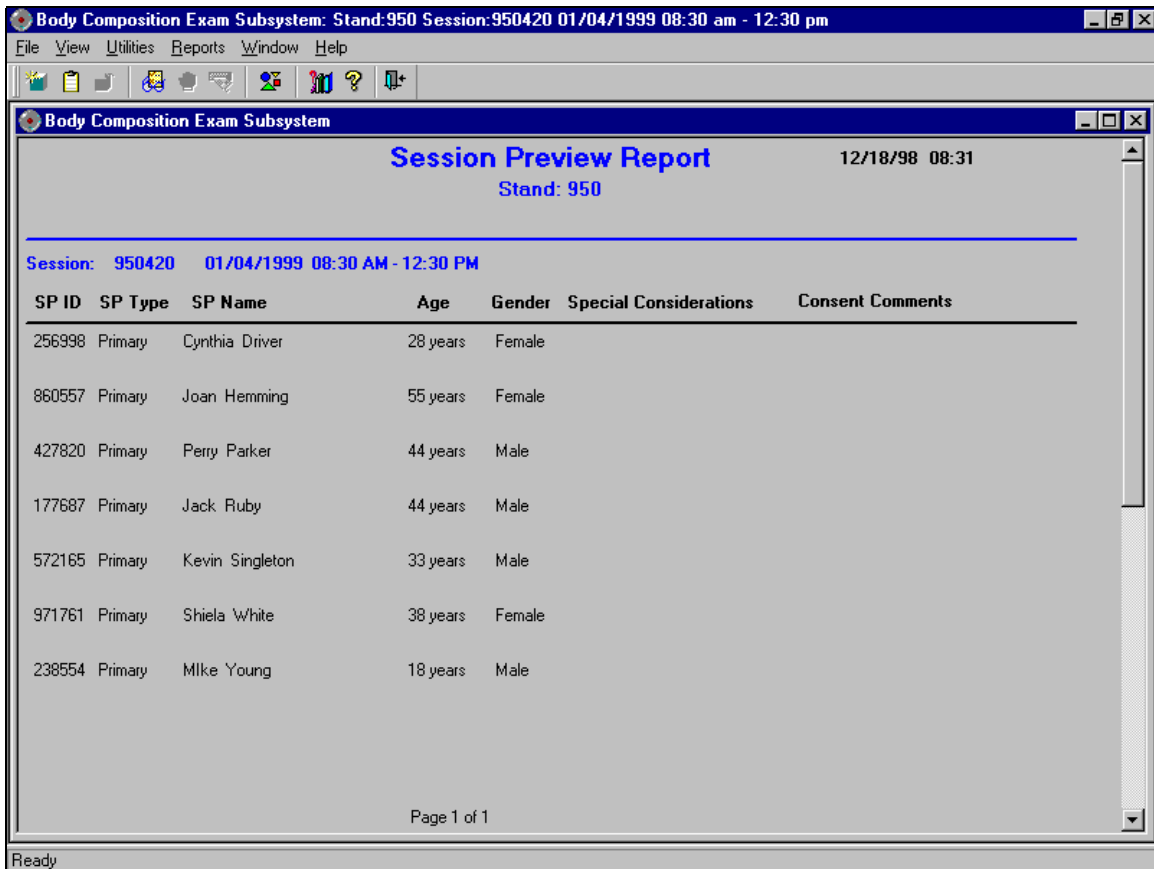

Figure 4-38. Session Preview Report
- The list of SP's in the current session is displayed. The SP identification number, the type (primary, guest, replicate), name, age, gender, special considerations, and comments are displayed (Figure 4-38).